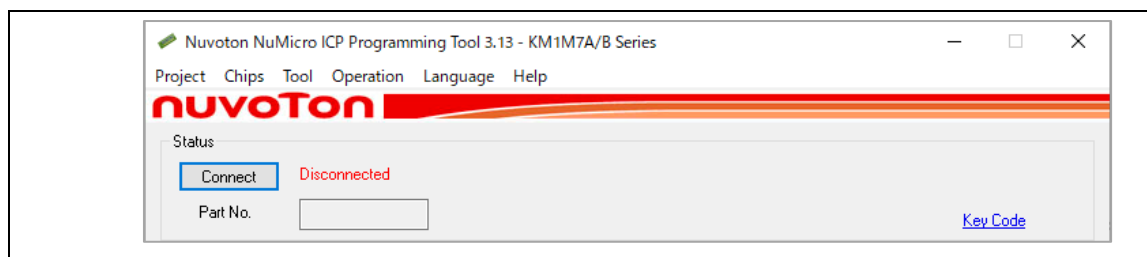

Figure 4-30 ICP Connection Settings
- Figure 4-30 shows ICP Connection Settings. Click the <Connect> button on the screen in Figure 4-30.